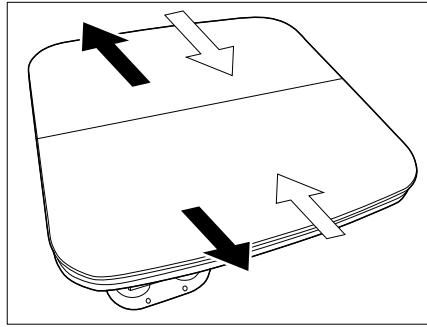

Fig. 108 Pull the outer parts apart
- Pull apart the outer parts of the table (Fig. 108 - black arrows).
- Push the outer parts of the table together (Fig. 108 - white arrows).